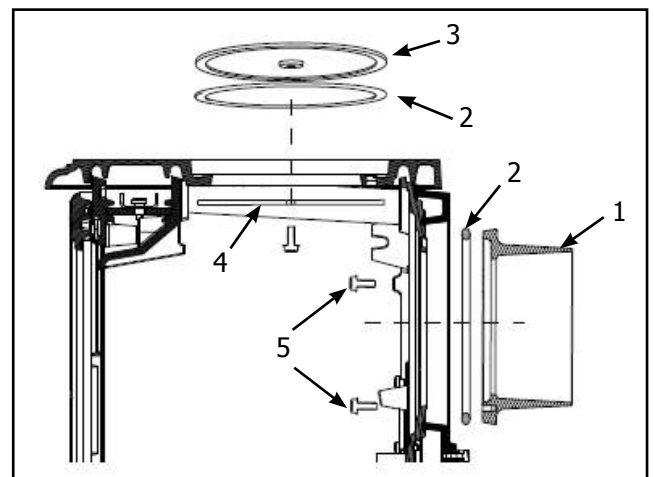

Figure 3 - Smoke exit at rear
2.6 Rear flue outlet (Figure 3)